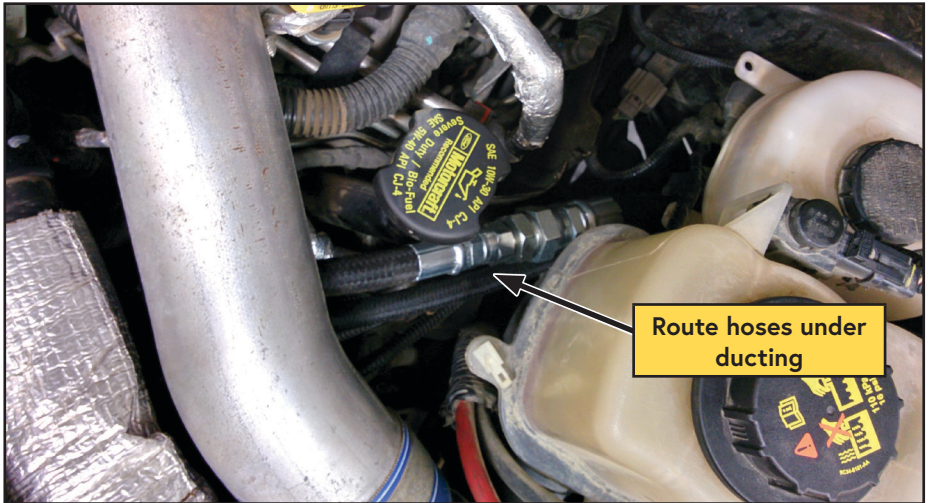

Figure 32 — VMAC hose routing
- Route the hoses and PTFE under the OEM Charge Air Cooler (CAC) tubing. Avoid the OEM vacuum lines, electrical harnesses, upper radiator hose, and the oil fill cap. The hoses should reappear near the coolant reservoir on the driver side of the engine bay (Figure 32).